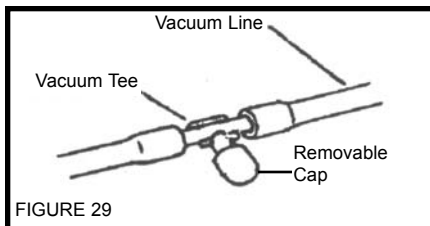

FIGURE 29
1. Factory Installed Tee with removable cap **Figure 29**